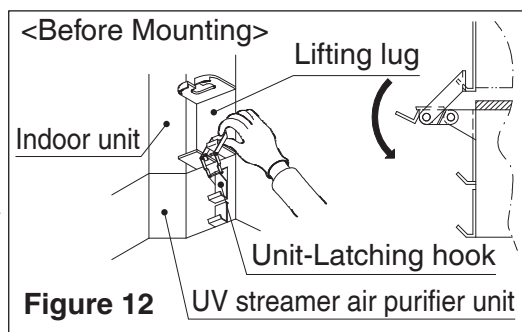

Figure 12
- (2) Hook the unit-latching hooks of the UV streamer air purifier unit to the lifting lugs of the indoor unit. (Refer to **Figure 12**.)